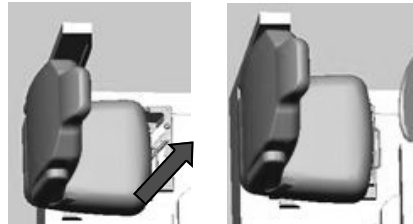

FIG 2.
4. Push the seat outboard back to its forward facing driving position. (Fig 2.)